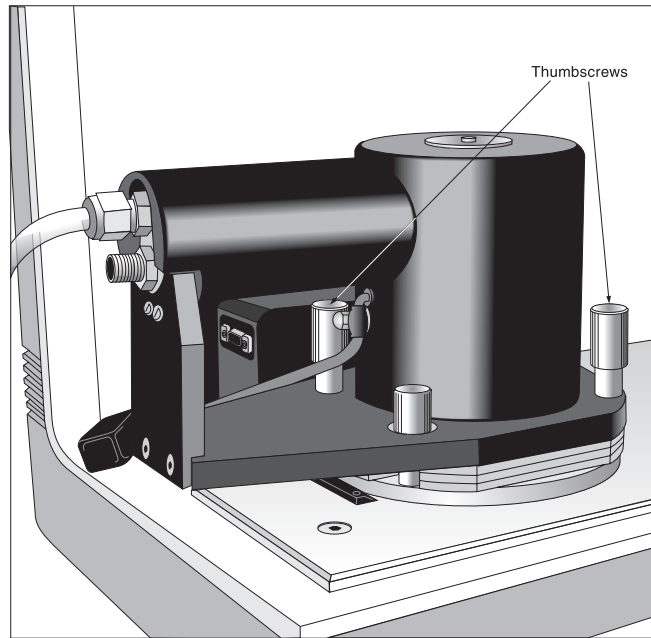

Figure 2.15
6. Screw the two large thumbscrews into their positions in the heat exchanger (see Figure 2.15).